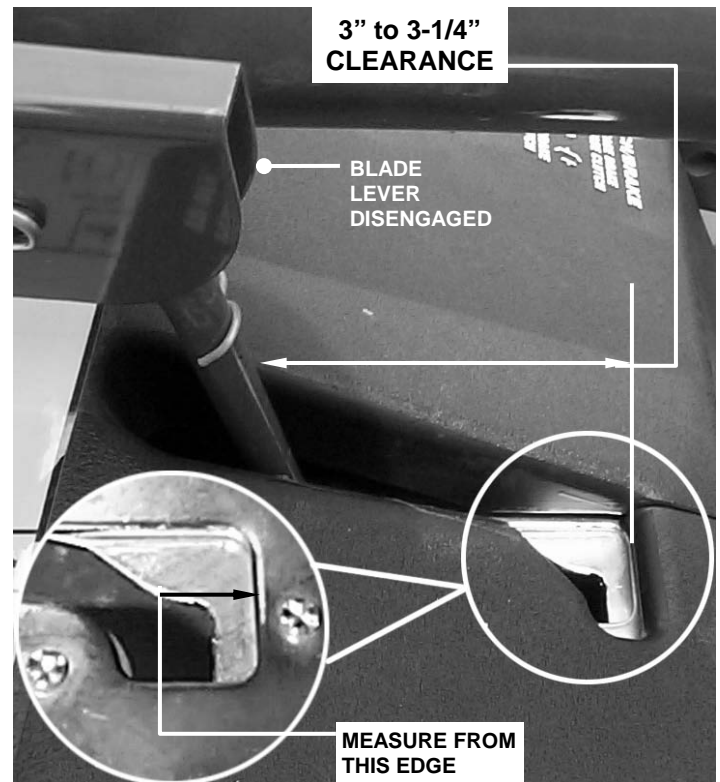

FIGURE 4.1
The automatic Blade Brake should stop the blades within 3 seconds anytime the blades are disengaged by moving blade lever to the "OFF" position or by releasing the Blade Pedals. When the Blade Brake is properly adjusted there should be 3" to 3-1/4" clearance between the Blade Engagement Lever and the edge of the Latch Plate. Check this by disengaging the Blade Lever as shown in Figure 4.1. Perform the following measurement and adjustment.
1. With the blade engagement lever disengaged, measure the distance between the front of the blade lever and the edge of the latch plate. The dimension should be 3" to 3-1/4" clearance between lever and edge of plate. See Figure 4.1. If the dimension is incorrect go to step 2.